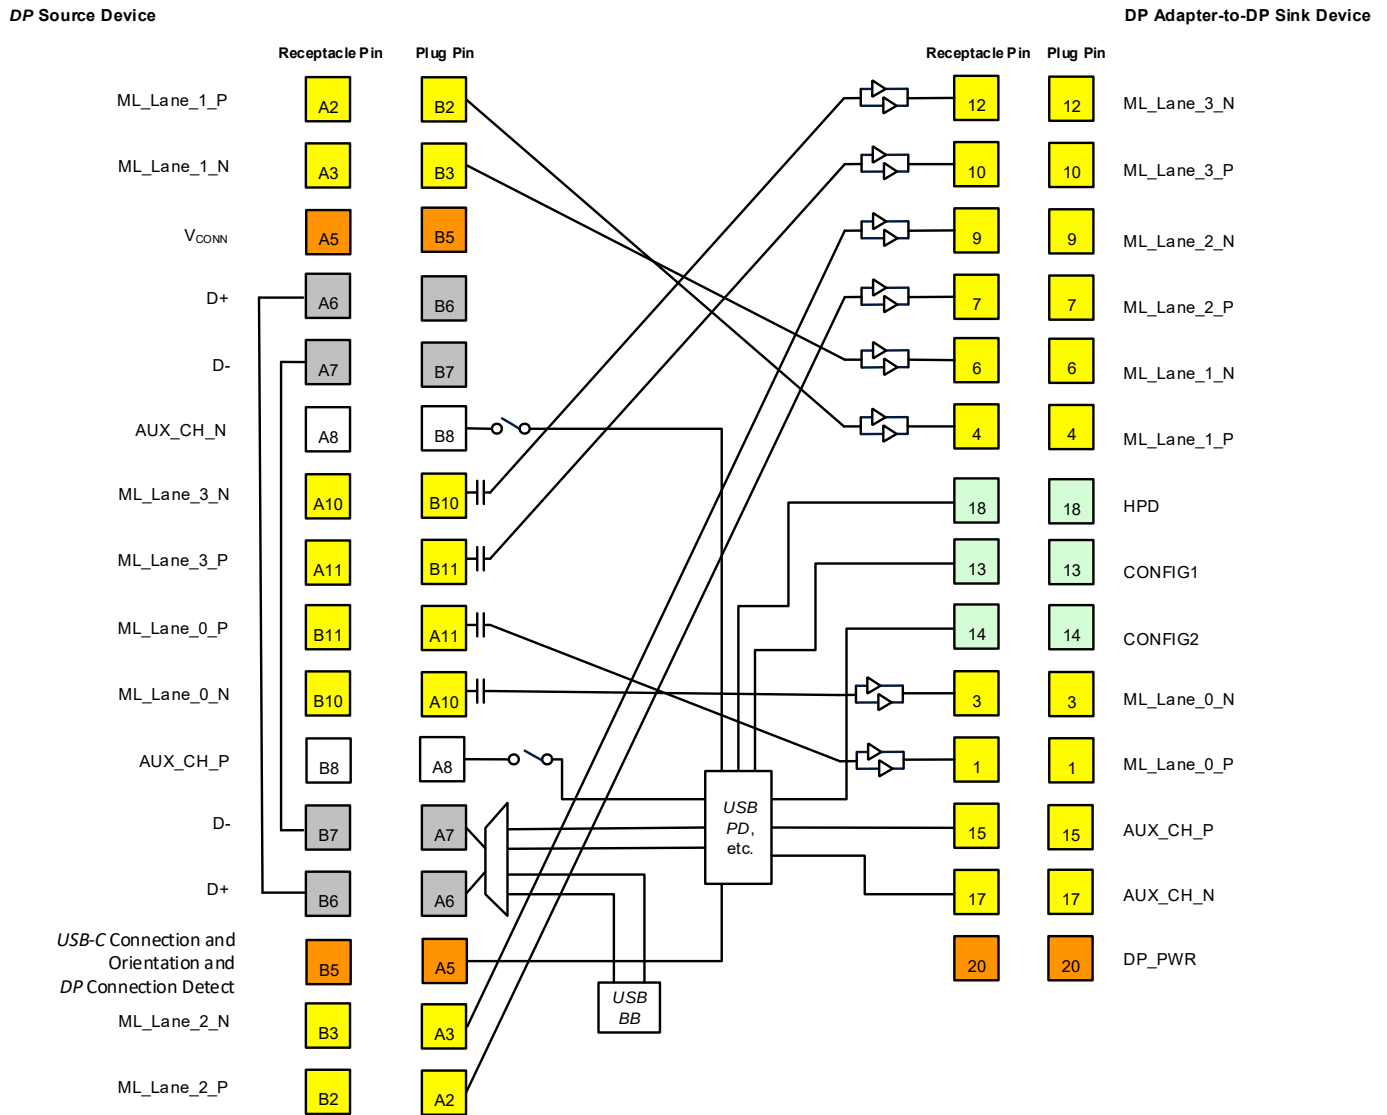

Figure 4-31: Scenario 5a Full-size DP Adapter Wiring – Flipped Plug Orientation
- Figure 4-31 illustrates this use for a full-size *DP* receptacle when the *USB-C* plug is inserted in flipped orientation